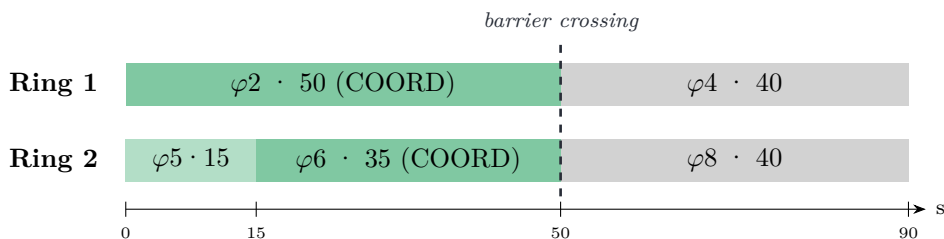

Figure 9: The same plan as Figure 8 as ring timelines. φ_5 is forced off at 15s and φ_6 comes up; both rings cross to the side street together at 50s.
2. **Match concurrent groups across rings** so companion phases open together: in Figure 9, $\varphi 5 + \varphi 6 = \varphi 2 = 50$ and $\varphi 8 = \varphi 4 = 40$. Mismatched groups make the rings hit the barrier at different times, and one direction sits dark waiting.
Sanity check: because the two rings time *in parallel*, each ring is its own full cycle budget. On a 90s cycle, ring 1's splits total 90 **and** ring 2's splits total 90 — so all eight splits together total **180s, twice the cycle**. That is parallelism, not overbooking: at every moment of the cycle one ring-1 window and one ring-2 window are open side by side (in Figure 9, while $\varphi 2$ owns 0–50 in ring 1, $\varphi 5$ and $\varphi 6$ split that same 0–50 in ring 2). The split column on the COORD screen is therefore best read one ring at a time — the R1/R2 tag beside each phase shows which ring (and A/B which barrier) it belongs to. If you instead spread the 90s across all eight phases, each ring totals only ~ 45 , and the engine's normalization scales every green to about *twice* what you typed.